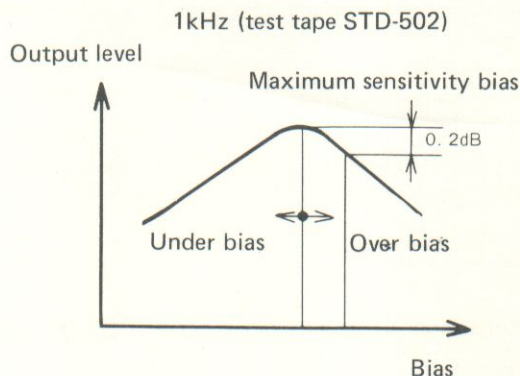

Fig. 36
3. While simultaneously recording and playing back with test tape STD-502, turn the bias adjustment semifixed resistor VR_{303} (L ch), VR_{304} (R ch) clockwise from minimum value to maximum value and adjust to the point at which the playback level drops 0.2dB past the maximum value (Fig. 36).
4. Since the adjustments of item 3 effect each other, repeat adjustment several times.